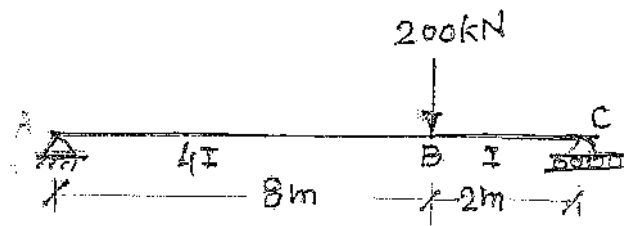

Fig. 12.1
b) For the beam shown in figure 12.1, using conjugate beam method, determine :